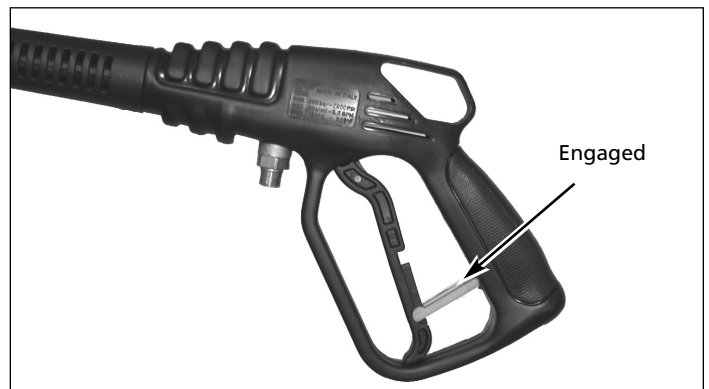

**Figure 8 - Insert spray tips into the rubber tip holder**
7. Install quick connect tips to tip holder and secure to the pressure washer handle. See Figure 8.